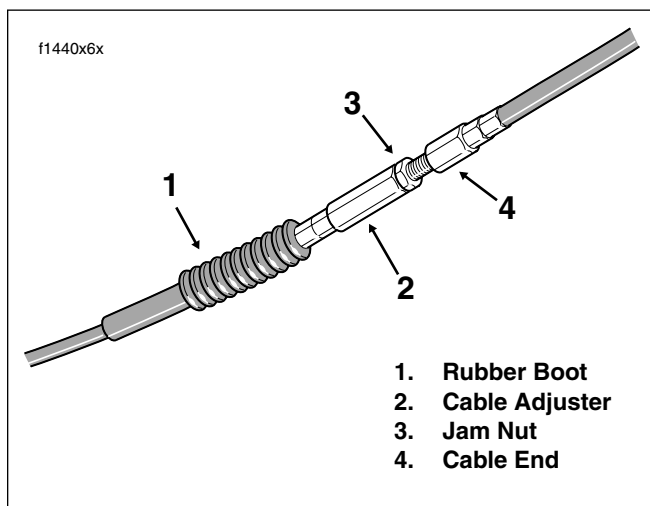

Figure 2-113. Clutch Cable Adjuster Mechanism
4. Slide rubber boot off clutch cable adjuster. Holding cable adjuster with 1/2 inch wrench, loosen jam nut using 9/16 inch wrench. Back jam nut away from cable adjuster. Move adjuster toward jam nut to introduce free play at hand lever. See Figure 2-113.